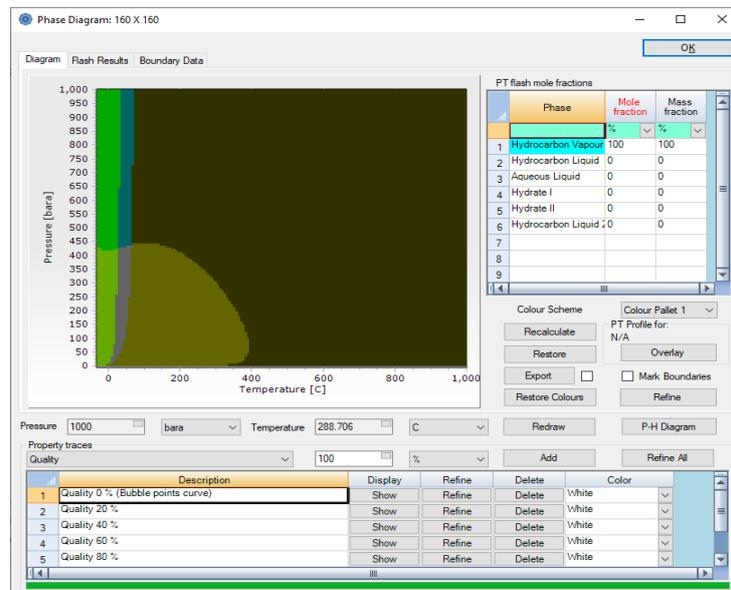

Figure 16: Phase diagram
14. Attach the end of the trunkline to the sink and both red squares should disappear. If everything has been set up correctly there should be no red squares on the canvas and should look like Figure 16.